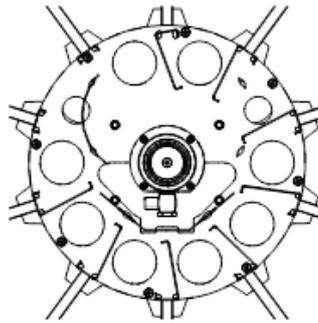
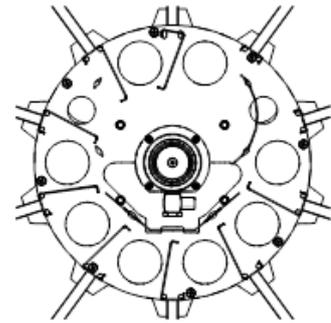

Fig. 10: For take-off on right
Fig. 11: For take-off on left
- Respect the take-off direction when mounting the shell plates (see Fig. 10 and Fig. 11). The take-off direction can be found on the type plate.